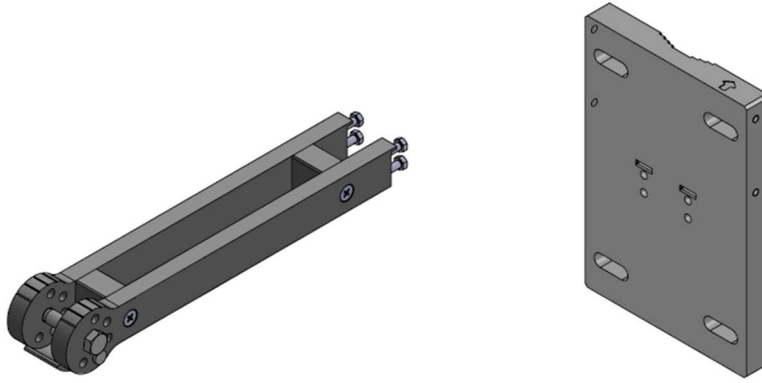

Figure 17: Mounting Arm Attachment
3. Attach the assembled mounting arm to the mounting bracket using the supplied M5 X 0.8 - 25 MM machine screws (refer to Figure 17). Tighten the mounting screws to 2.5 Nm (22 in·lbs).